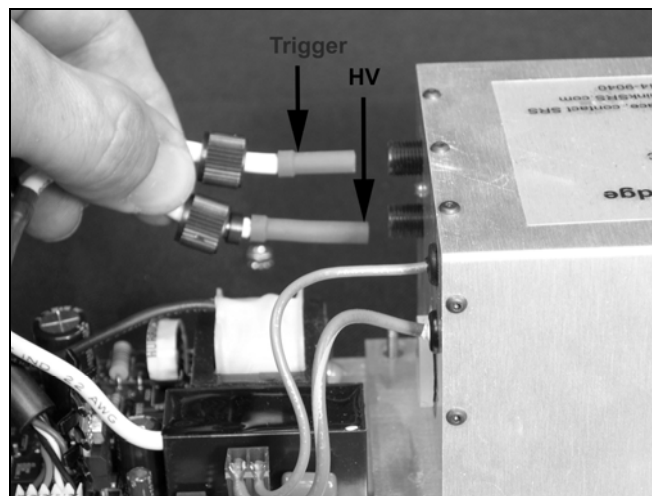

Figure 23. Identify the trigger and HV leads.
8. Identify the trigger and HV leads coming from the board transformers. As shown in Figure 23, the trigger lead is the shorter of the two, and connects to the upper female high voltage connector on the laser cartridge.